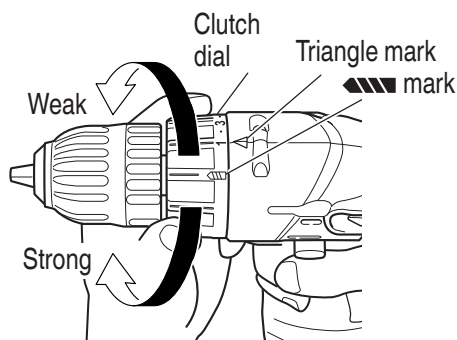

Fig. 4
1. Confirm the clutch dial position (See Fig. 4)
The unit indicates the tightening torque with the numbers “1, 3, 5 ... 22” on the clutch dial, and the white dots. The tightening torque at position “1” is the weakest and the torque is strongest at the highest number. (see Fig. 4).